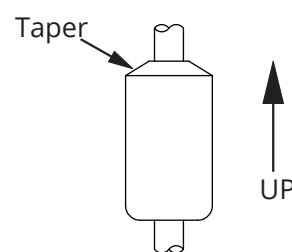

FIGURE 5.1
- The float(s) is/are oriented properly on the stem (See Figure 5.1 below). MPI-T floats are typically installed by customer.